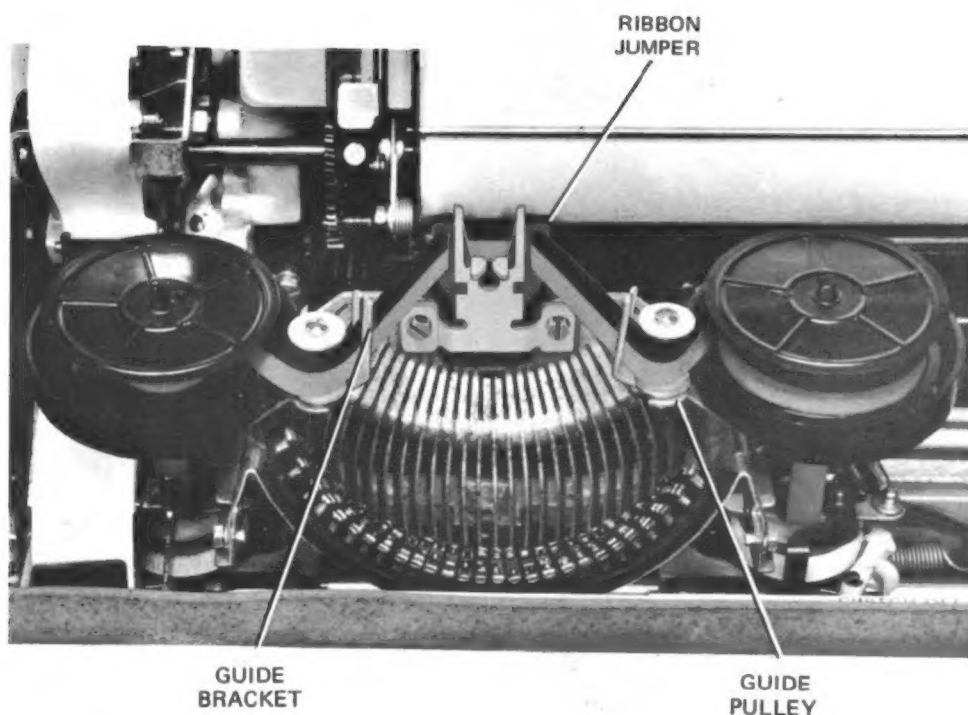

Fig. 2.9. RIBBON PATH
- 5.9 Thread the ribbon into each side of the ribbon jumper, as shown in Fig. 2.9. then through the slots of the two guide brackets and around the guide pulleys. Wind up the spools to take up any slack ribbon.